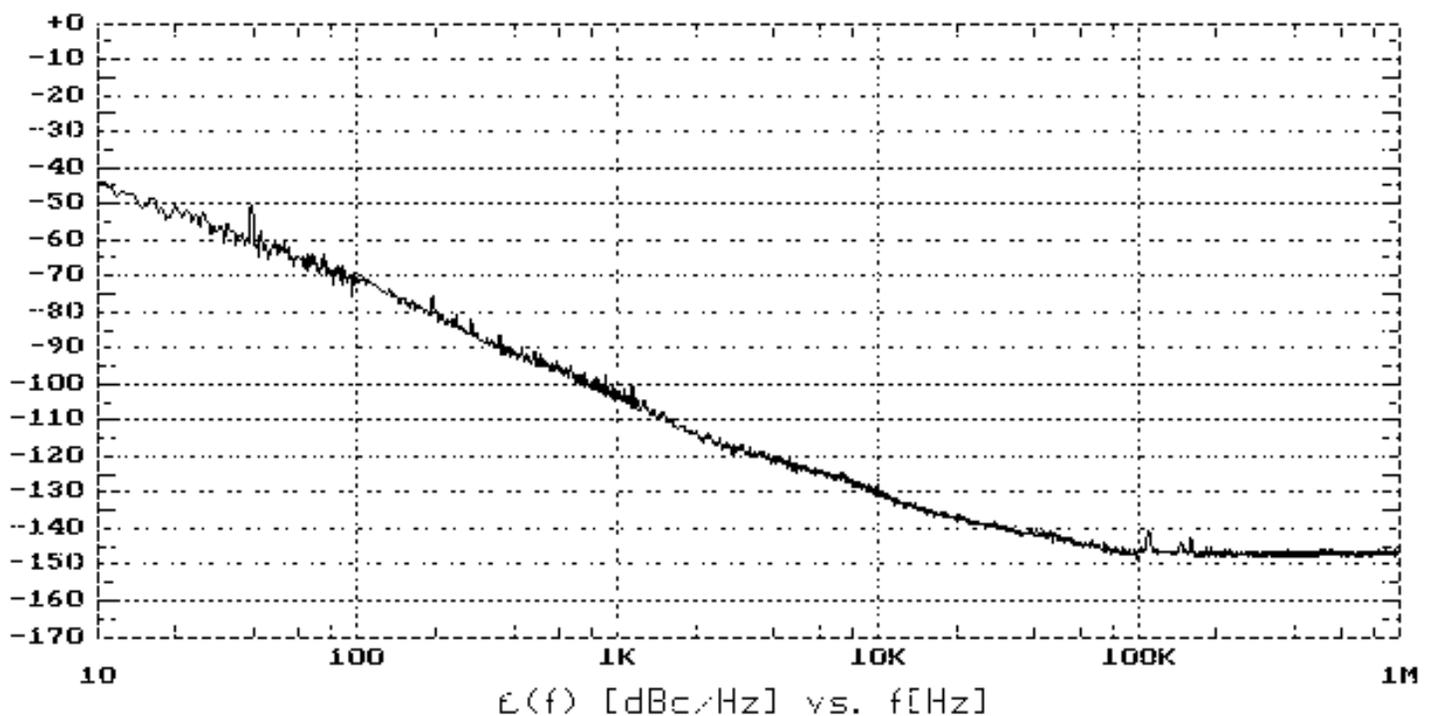

Figure 1
*Low Jitter and Phase Noise* - low clock jitter (or low phase noise in the frequency domain) is critical to achieving low bit error rates in optical data communications systems. The OP4004B provides very low free-running jitter and phase noise at 1/16 the 10 G ethernet clock rate, as shown in Figures 1 and 2. This makes the OP4004B an excellent reference for the generation or regeneration of low-jitter clocks and data streams. The OP4004B achieves this performance over its full -40 to +85 °C operating temperature range using RFM's patented SAW oscillator architecture.